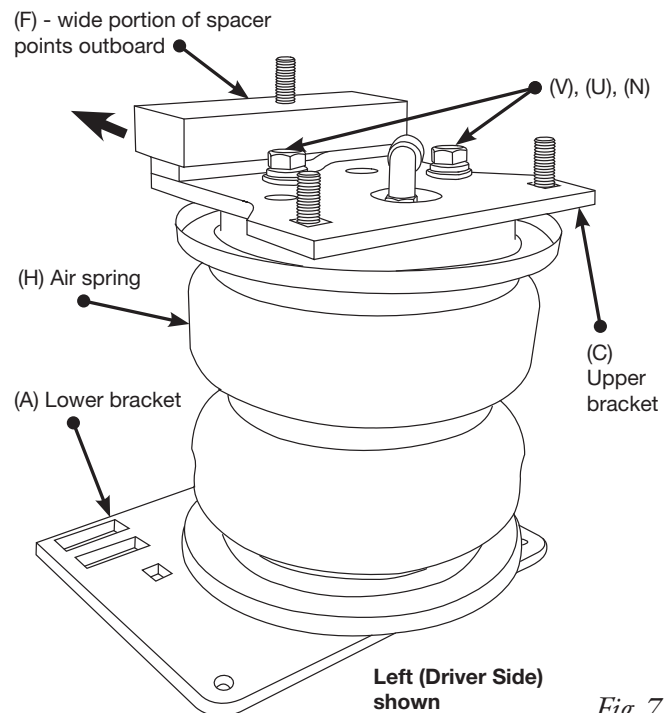

Fig. 7
NOTE The fitting on top of the air spring points inward (Fig. 7).
4. Insert two 3/8"-16 x 1 1/4" carriage bolts (P) up through the bottom of the upper brackets (Fig. 7), through the two square holes that are on the corresponding side. Also, insert one 3/8"-16 x 2 1/2" carriage bolt (M) through the remaining hole. The head of this carriage bolt will be hidden once mounted to the air spring.
6. Repeat the above process for the opposite side assembly (Fig. 7).
7. Set the spacer (F) over both long carriage bolts (Fig. 7).
NOTE The hole in the flat spacer (F) is offset. Install the spacer so that the wide portion faces the outside of the vehicle (Fig. 7).